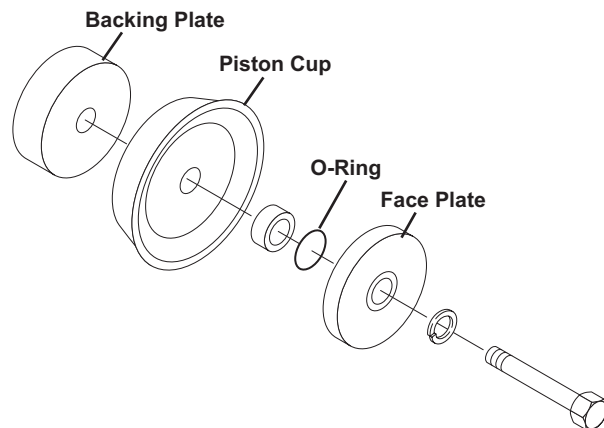

Figure 14
9. Separate the components (Figure 14) and clean all residue from the face plate and O-ring backing plate, as well as the O-ring groove.
4. Grease the new piston cup, and slide it over the alignment pin with the flat side to the backing plate (Figure 14).